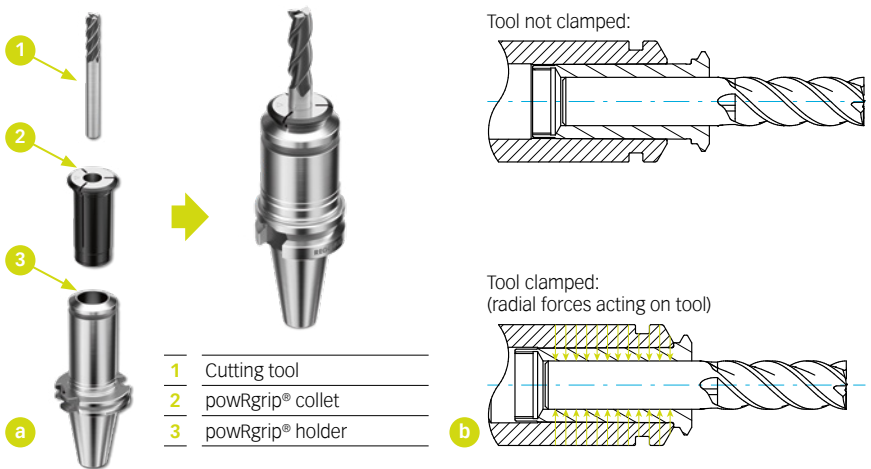

Figure 3.3
- ▶ Figure 3.3 (a) [18] shows the three components of the powRgrip® system: toolholder, collet and cutting tool, left in the unclamped state and right in the clamped state. In addition to this,
- ▶ Figure 3.3 (b) [18] a sectional view of the clamping area, at the top in the unclamped state and at the bottom in the clamped state.